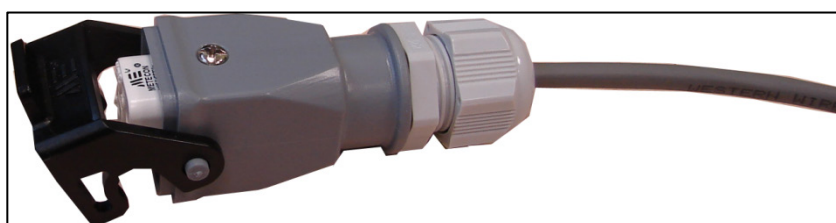

Figure 24: Wired Unit in Protective Cover
6. Place the wired connector back into the protective cover and place the retaining screw in place (Figure 24).